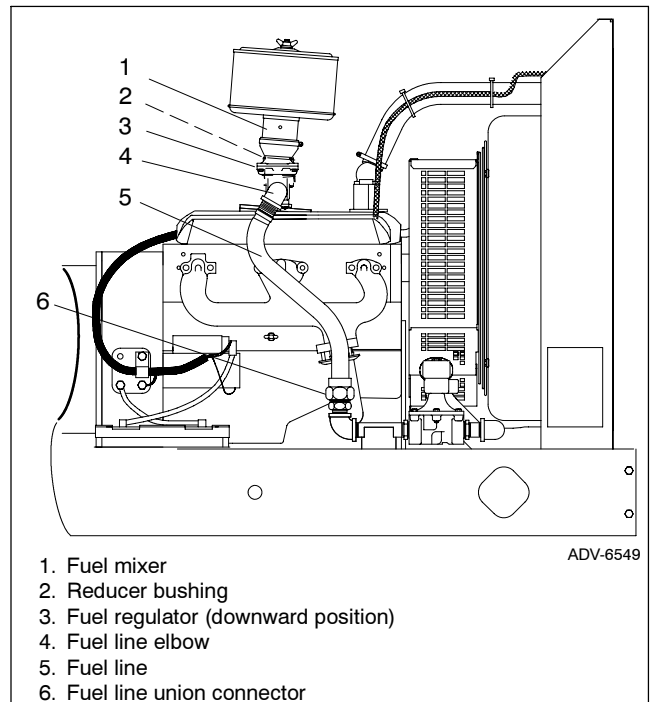

Figure 7-28 Fuel System Configuration, Typical
Figure 7-28 shows the natural gas configuration for the 50/60 kW models; the 30–45 kW and 80–125 kW models are similar.
- a. Remove the components from the engine as shown in Figure 7-28.